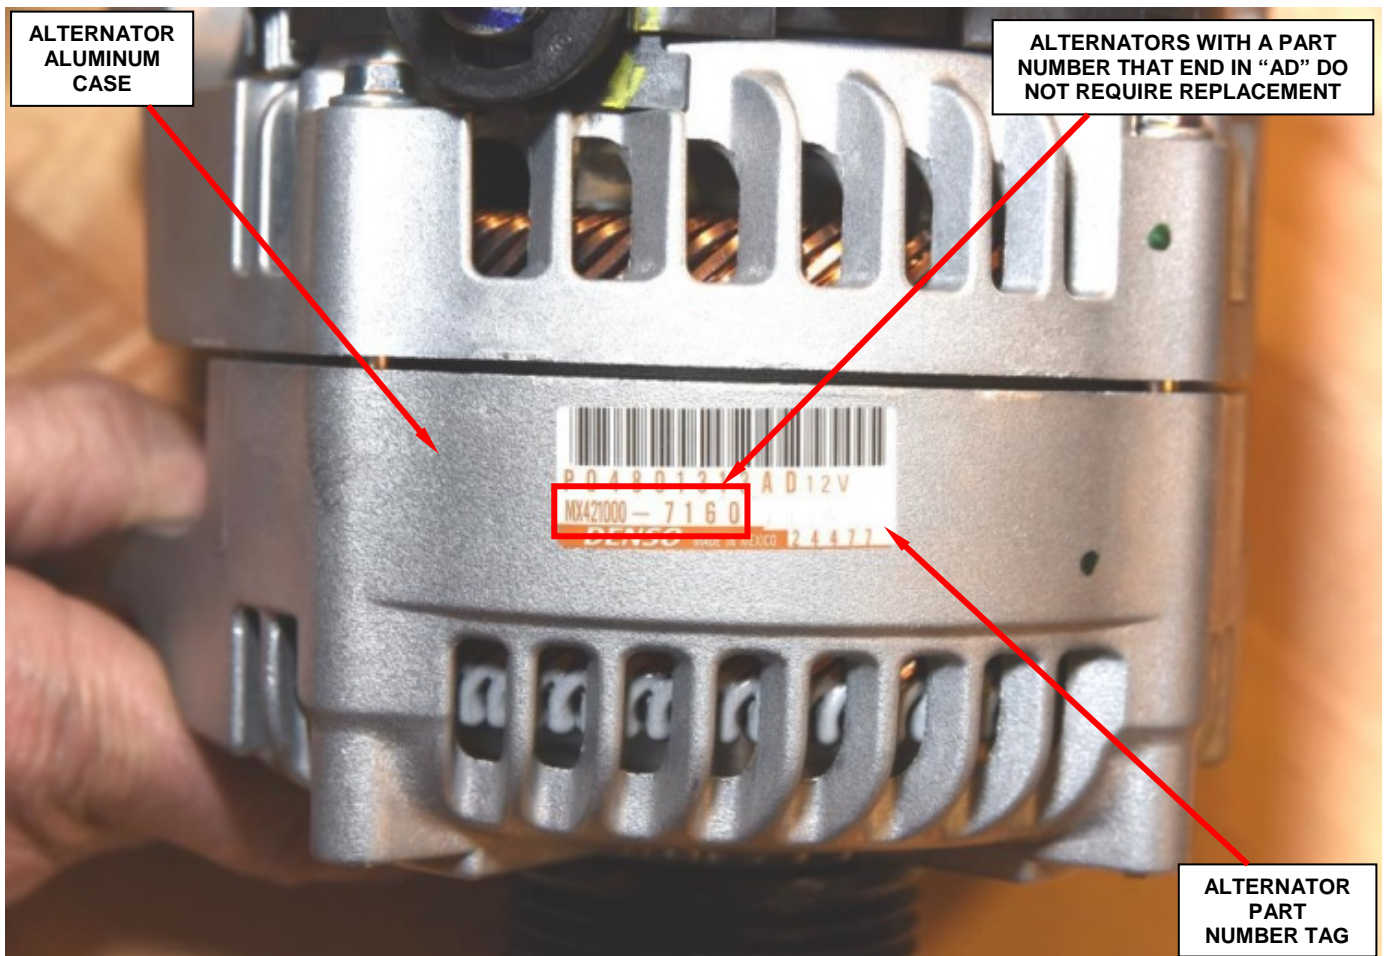

Figure 4 - Alternator Part Number (RAM Trucks)
d. Inspect the part number on the alternator part tag (Figure 4):
15. Install the air cleaner housing and air inlet tube (Figure 4).
16. Connect sensor electrical connectors located on the air cleaner housing (Figure 4).